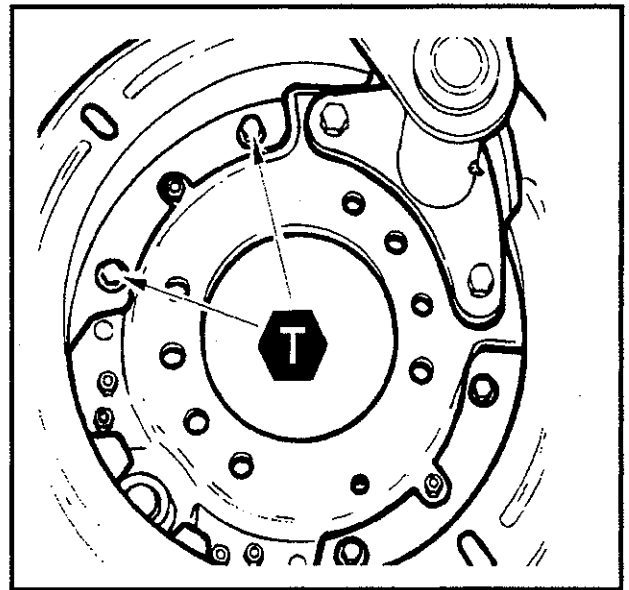

Figure 43—Tighten Screws
6. Tighten screws to 150-180 inch-pounds (16.9—20.3 N•m). (See Figure 43—Tighten Screws.)